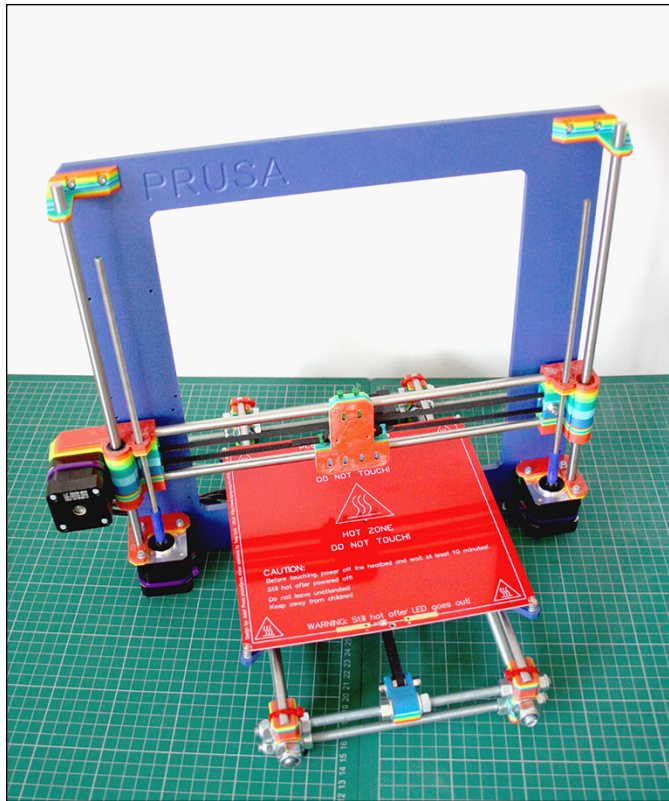

FIGURE 11-8:
- » **Prusa i3:** The Prusa i3 (MK2/MK3/MK4) has a hybrid design that combines elements from the Mendel90, Wallace, and other machines to make a simple-to-build, high-quality home 3D printer. Version 3, known as i3, is a revised version of Mendel, similar in concept to Mendel90 but with a rigid central wooden, acrylic, or aluminum frame and threaded rods that support the moving bed on the Y axis. (See Figure 11-8.) The Z motors are also positioned at the base as in the Mendel90, which provides Z axis movement with a flexible coupler to create smooth print sides. Overconstraint in previous designs (forcing alignment to a threaded rod that could be bent or worn, rather than allowing for some self-centering freedom on the Z axis vertical movement) often produced Z-wobble, which appeared as bands or grooves on the side of a printed object. The Prusa i3 continues to be updated and improved. (For more on the Prusa i3, see Chapter 12.)